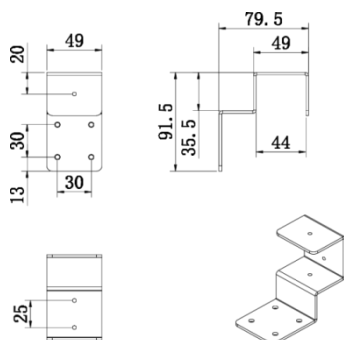

Figure 1
2. The back of the unit is equipped with Ø04x16 threaded holes (as illustrated in Figure 1) designed for securely fastening the splicing hooks. The center-to-center distance between these holes is 560mm x 400mm .